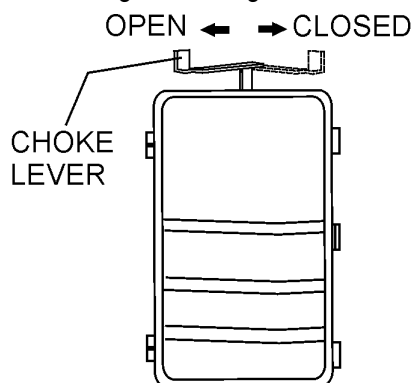

Figure 11. Choke Lever
2. Place the choke lever (Figure 11) in the **CLOSED** position if starting a cold engine.
3. Place the choke lever (Figure 11) in the **OPEN** position if starting a warm engine or the temperature is warm.
6. If the engine has started, slowly return the choke lever (Figure 11) to the **OPEN** position. If the engine has not started repeat steps 1 through 5.